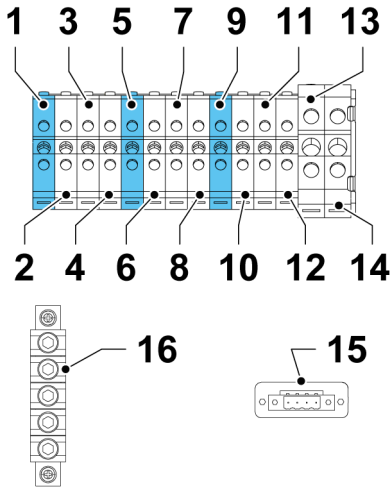

Figure 10: UPS power cable terminals for three-phase units
6. Connect the cables to the respective terminal blocks, see *Figures 10: UPS power cable terminals for three-phase units* and *11: UPS power cable terminals for single phase units*.